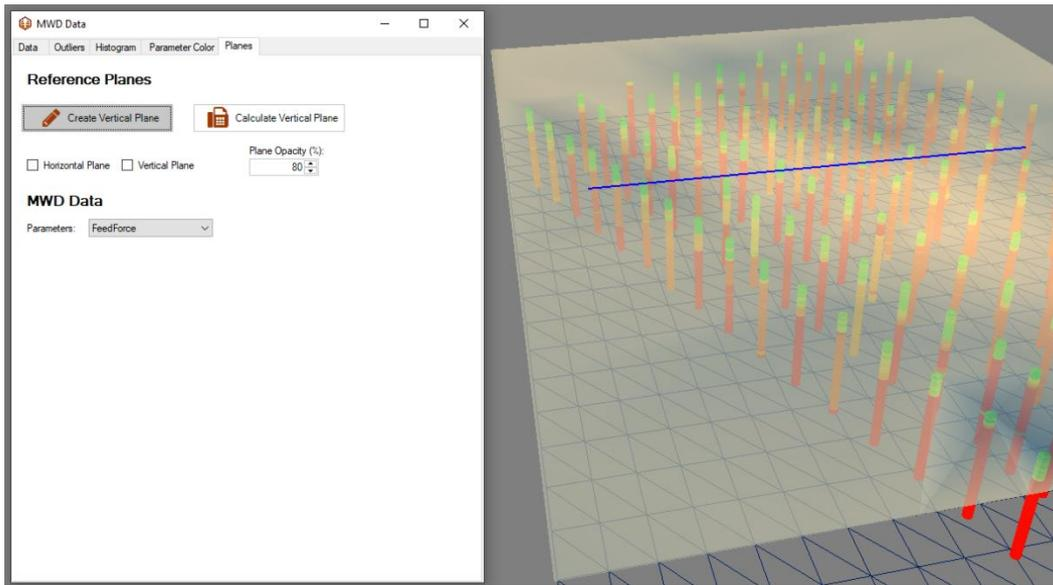

Figure 450 - MWD Data - Planes Tab: Creating Vertical Plane
- Left-click, drag, and drop to define where the plane will be added (Figure 450).